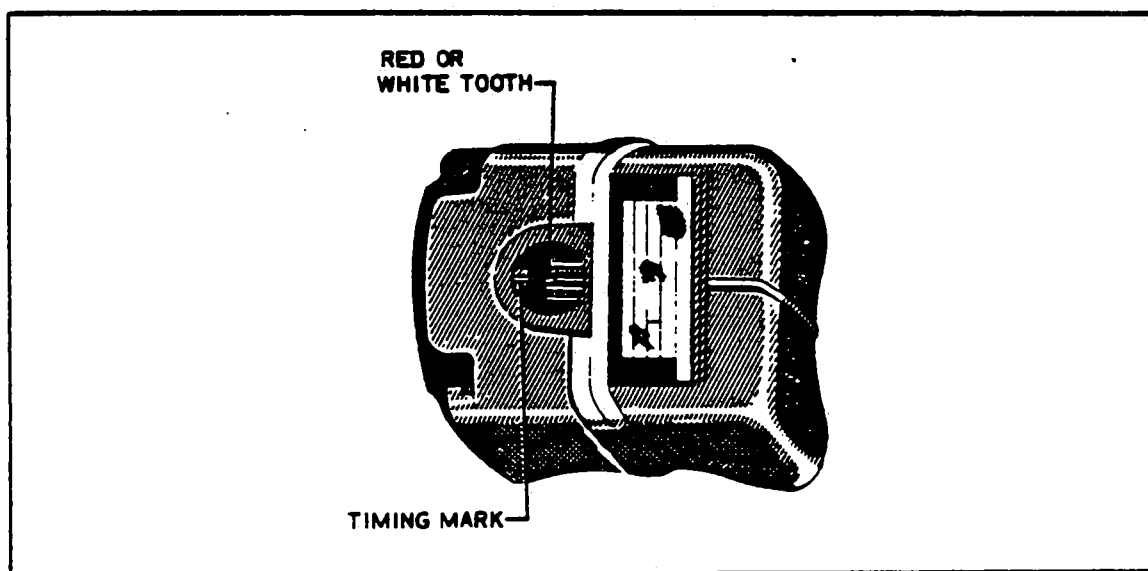

Figure 8-1. Magneto Timing Marks
c. Rotate coupling from neutral in the direction of rotation 10 degrees. Appearing through timing hole, when the white or red tooth aligns with the white line of the distributor block the magneto is set at "E" gap. (Refer to Figure 8-1.)
c. Rotate the drive gear on the magneto until the chamfered tooth on the distributor gear inside the magneto aligns with the white pointer as seen through the inspection hole in the magneto housing. (Refer to Figure 8-1.)